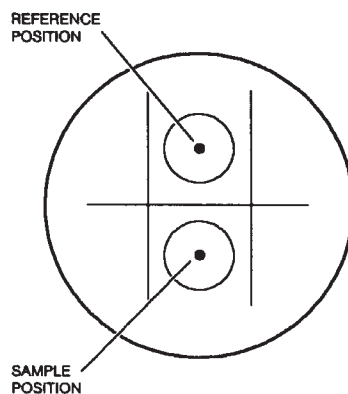

Figure 3.5
- a. *Single Sample Cell:* Place the sample pan on the front, raised platform and the reference pan on the rear platform. Centering the pans within the grid will ensure that they are centered on the platforms (see Figure 3.5).